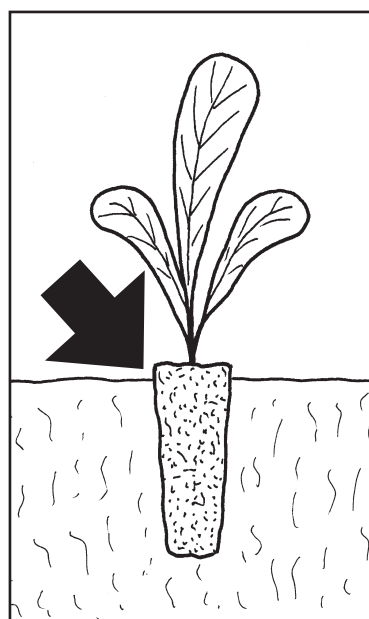

Fig. 1
- After a few metres, if you see that the seedlings are not planted deeply enough (**Fig. 1**) or too deeply (**Fig. 2**), stop the tractor and adjust the handle (**A**). This is done by turning it CLOCKWISE to plant deeper, and ANTI-CLOCKWISE for shallower planting.